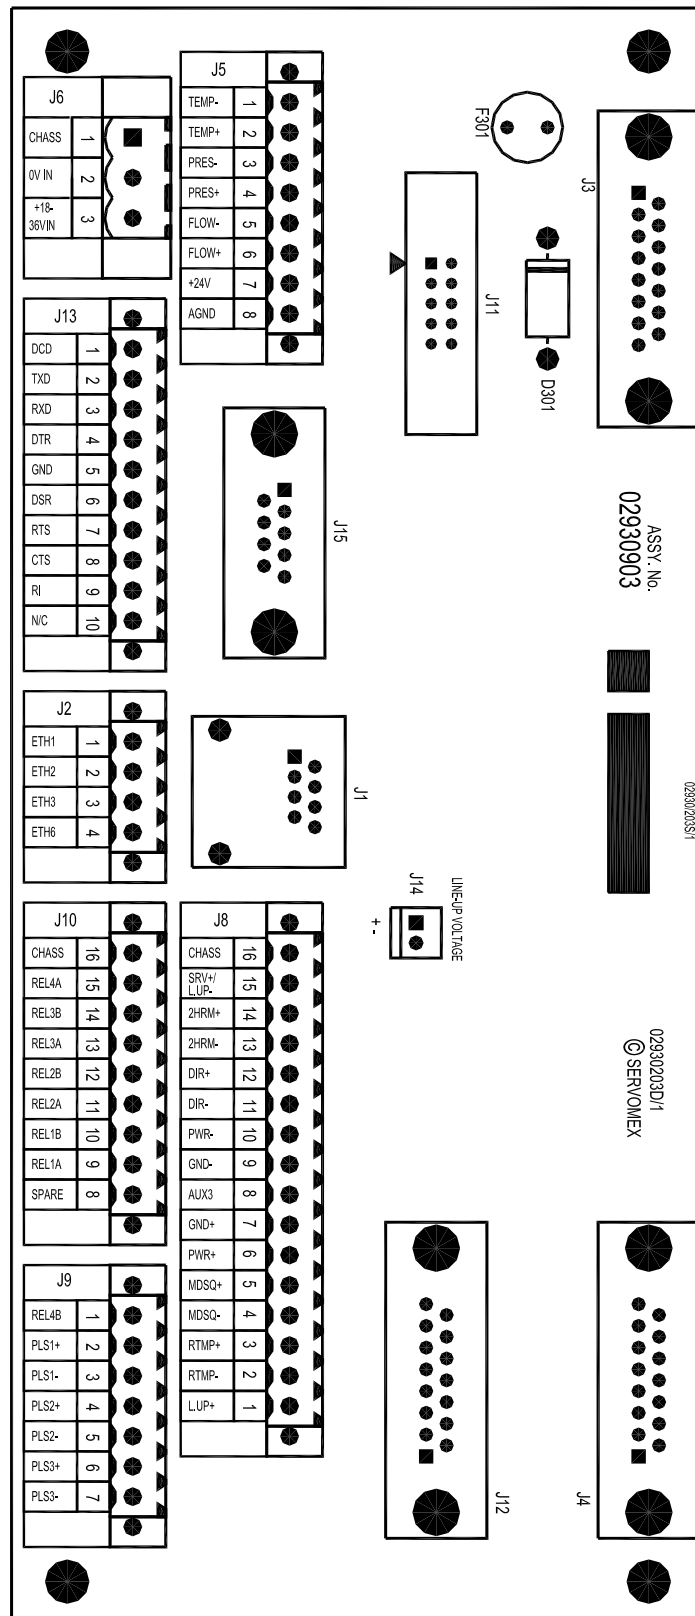

Figure 6-2: Internal input and output connectors
2. Connect the DC supply directly to terminal J6 on the connection PCB (Figure 6-2 and Figure 6-5) as follows: